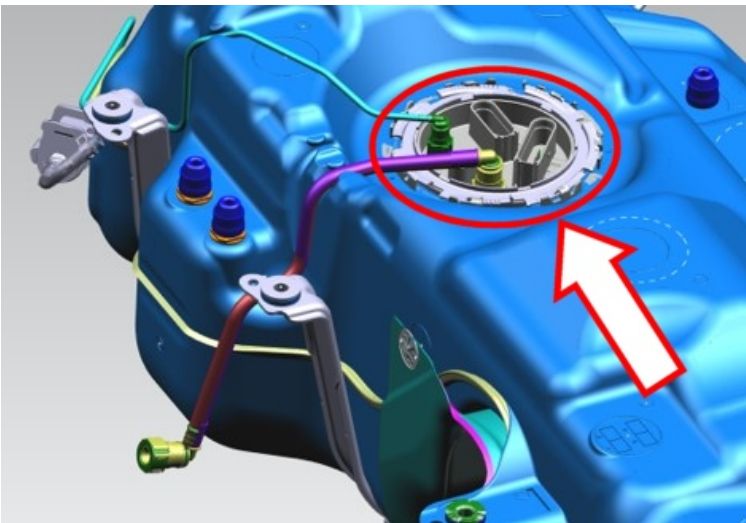

Figure 1
4) Conduct a visual inspection of the fuel pump delivery module (Top) for any obvious signs of damage (Figure 1)